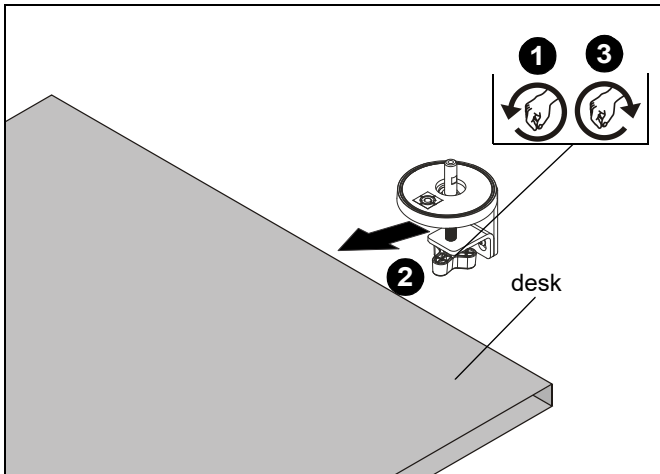
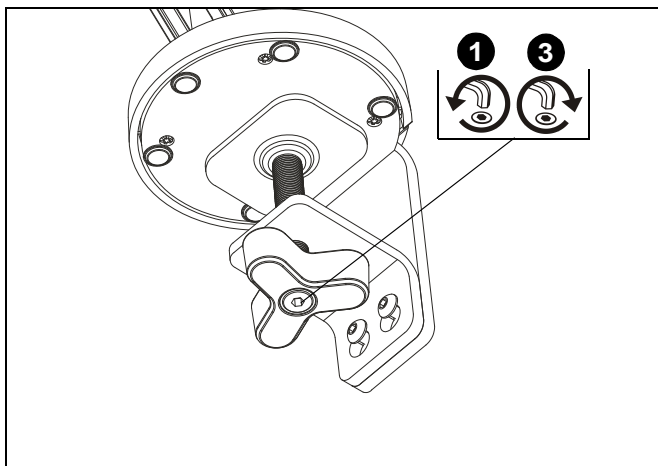

Figure 1
Figure 2
1. Loosen clamp screw on base assembly (B) until enough space is created between clamp and base to allow for desk mounting. (See Figure 1) or (See Figure 2)
**NOTE:** Clamp can be turned either by turning the knob (See Figure 1) or turning the bolt with a hex key (See Figure 2) depending on installer preference.
2. Place base assembly (B) on top of desk at desired mounting location. (See Figure 1)
3. Tighten clamp using clamp screw until mount is securely fastened to desk. (See Figure 1) or (See Figure 2)